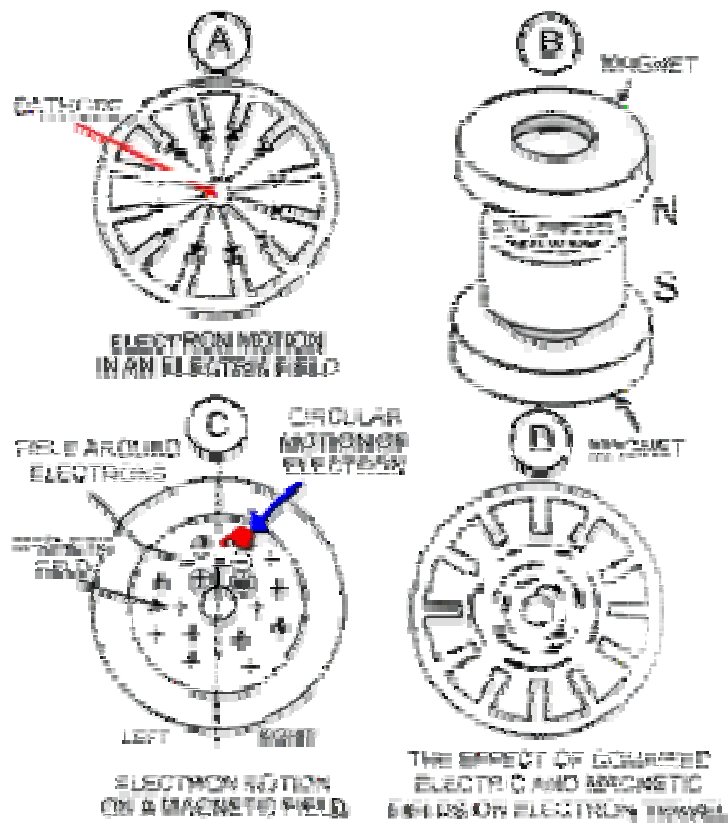

Figure 3 Electron motion in a microwave tube.
1. The force exerted by an electric field on an electron is proportional to the strength of the field. Electrons tend to move from a point of negative potential toward a positive potential. Figure 3-A shows the uniform and direct movement of the electrons in an electric field.
In Figure 3-B two permanent magnets are added above and below the tube structure. In Figure 3-C, assume the upper magnet is a north pole and the lower is south pole, is located underneath the page, so that the magnetic field appears to be coming right through the page. Just as electrons flowing through a conductor cause a magnetic field